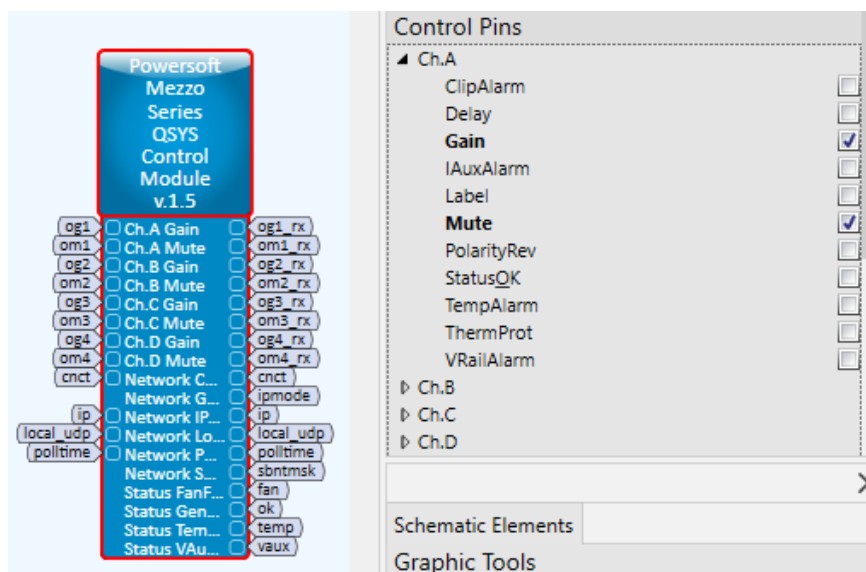

Figure 3 – Screenshot of Control Pins of the Plug-in QSYS Designer.
3. Expand and connect any control pins you wish to incorporate into the design (Figure 3).